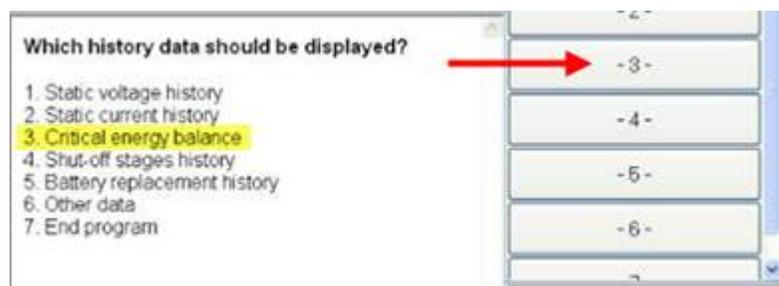

Figure 15. J644 Checking history data main menu.
7. Select **3. Critical energy balance** to view the state of the vehicle at critical energy (Figure 15).